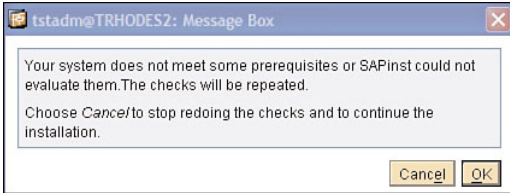

FIGURE 25.3 You can retry the checks by clicking Cancel. If you have evaluated the issues and are comfortable with continuing, simply click Cancel.
9. You might get a message such as the one shown in Figure 25.3 if your system does not pass a check for SAP prerequisites. You can either correct the issues and click OK, or click Cancel to bypass the checks. For example, you may need to click Cancel if you have the latest version of an OS patch that is not recognized by SAPinst (which indeed may or may not be a problem—search SAP Notes to confirm, or use your best judgment).